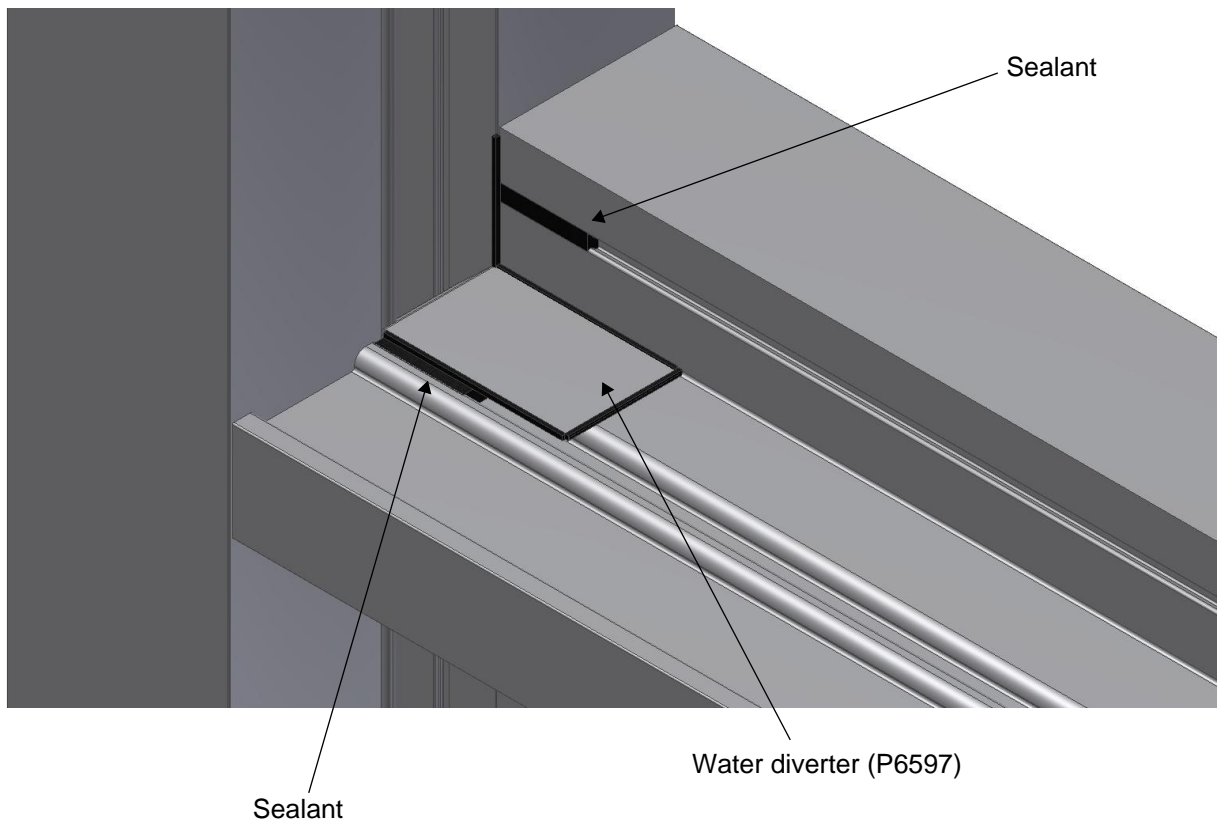

Figure 8: Place a water diverter on intermediate horizontals.
- When the surfaces are dry, butter the underside of the P6597 water diverter with sealant and press the diverter to the horizontal in the glazing pocket as shown in Figure 8.